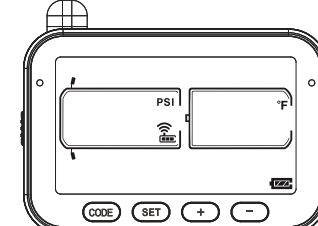
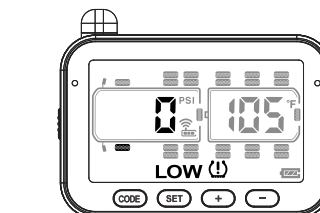

Figure 1.Standby mode
Figure 4. Standby mode after pairing
1. After turning on the display (Figure 1), press and hold the "CODE" button for 3 seconds. The buzzer will return to the normal display screen (Figure 4). Install the sensors on the corresponding tire positions, and the display will show the pressure value of the tires (Figure 5). The operation is now complete.
3. Once all the sensors are paired, press and hold the "CODE" button for 3 seconds. The buzzer will sound "Bi", and the display will return to the normal display screen (Figure 4). Install the sensors on the corresponding tire positions, and the display will show the pressure value of the tires (Figure 5). The operation is now complete.